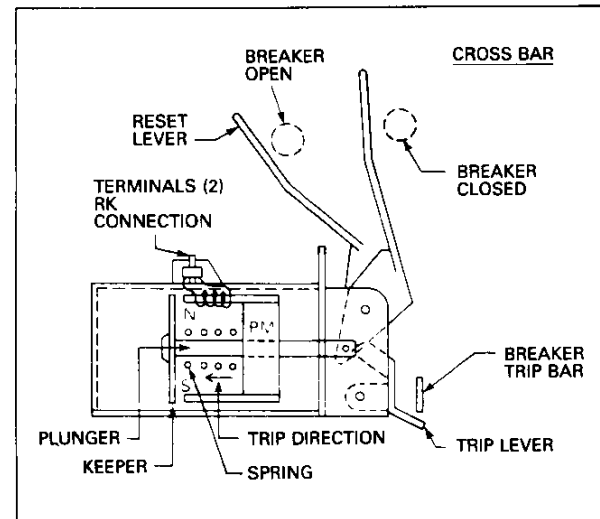

Fig. 2. Actuator Diagram
When the actuator receives a tripping current from the RK, it releases a mechanical force to trip the breaker. The actuator is made up of a permanent magnet and a spring (see Fig. 2). When the breaker is open, the cross bar pushes the reset lever. The reset lever moves the plunger out, and the plunger then compresses the spring and pulls the keeper until it contacts the pole pieces of the magnet. Although the magnet cannot pull and reset the keeper against the force of the spring acting on the plunger, it can hold the spring force when the keeper is in contact with the magnet. A tripping current from the RK unit counteracts the efforts of the permanent magnet allowing the spring to separate the keeper from the magnet and move the plunger to actuate the trip lever.
3. Operate the actuator a few times. Alternately pull back on the reset lever (see Fig. 2) and then trip by applying 28 Vdc (be sure to use correct polarity) to the terminals.